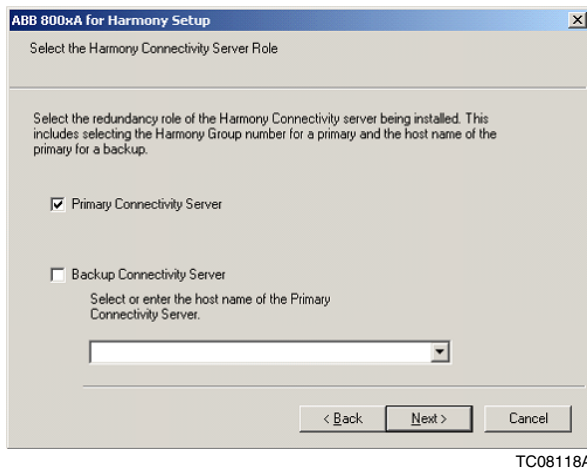

Figure 37. Connectivity Server Role
1. The Select the Harmony Server Role dialog box will appear (Figure 37).